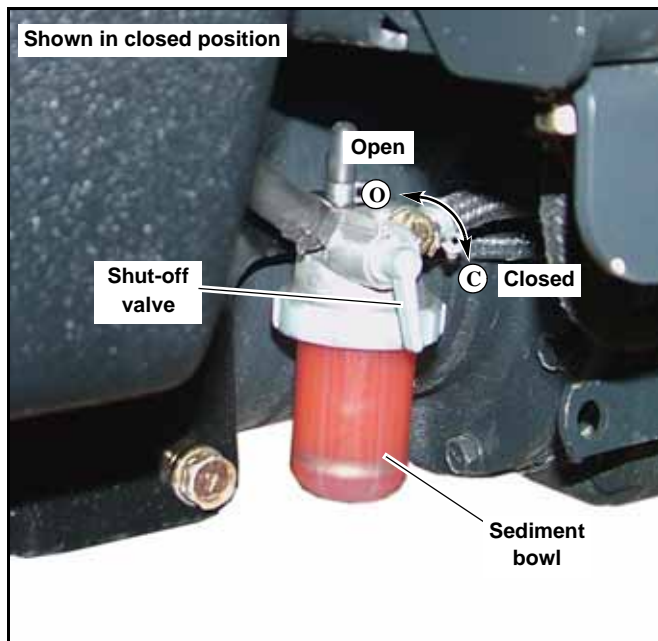

Figure 4-10
1. Make sure there is adequate fuel in the fuel tank and close the fuel shutoff valve (the handle should be pointing to the "C" position.) Remove the fuel sediment bowl. Figure 4-10
1. Close the shutoff valve (the handle should be pointing to the "C" position). Figure 4-10
7. Open the fuel shutoff valve (the handle should be pointing to the "O" position), so fuel will flow to the filter. Figure 4-10